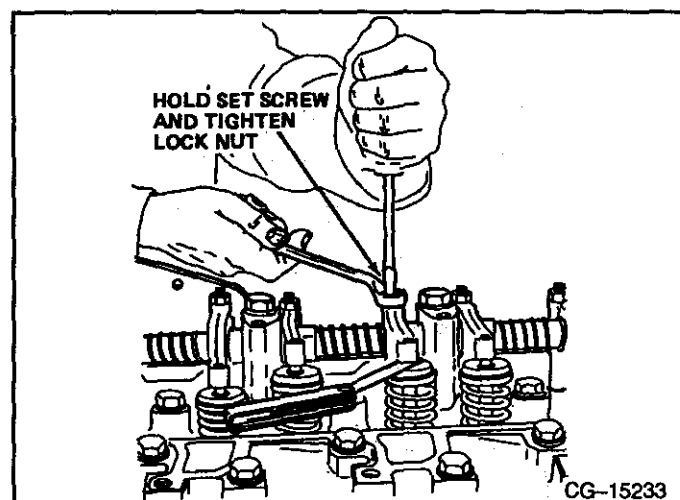

FIGURE 7-63
- c. Tighten the lock nut once the valve adjustment is set. Remove the feeler gauge. Refer to **FIGURE 7-63**.